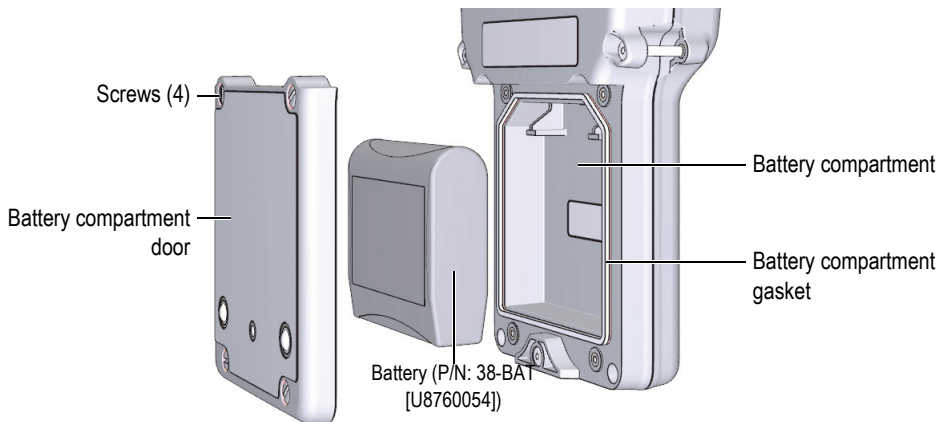

Figure 2-4 Opening the battery compartment
The battery is located in a compartment that is accessible from the back of the 39DL PLUS (see Figure 2-4 on page 52).
6. At the back of the instrument, unscrew the four screws of the battery compartment cover (see Figure 2-4 on page 52).